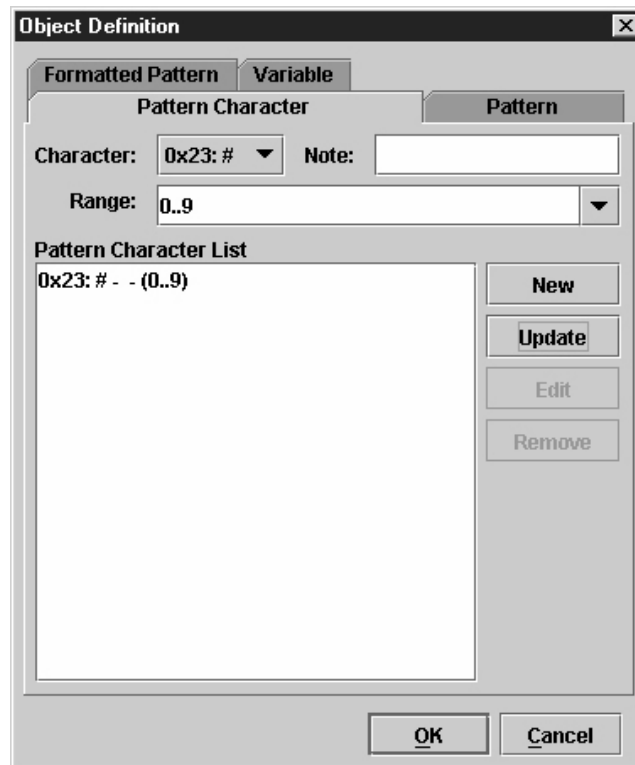

Figure 148. Defining a Pattern Character
5. Click **Add** to add the pattern character to the list. See Figure 148. Next, set up a full pattern using the pattern character just defined.